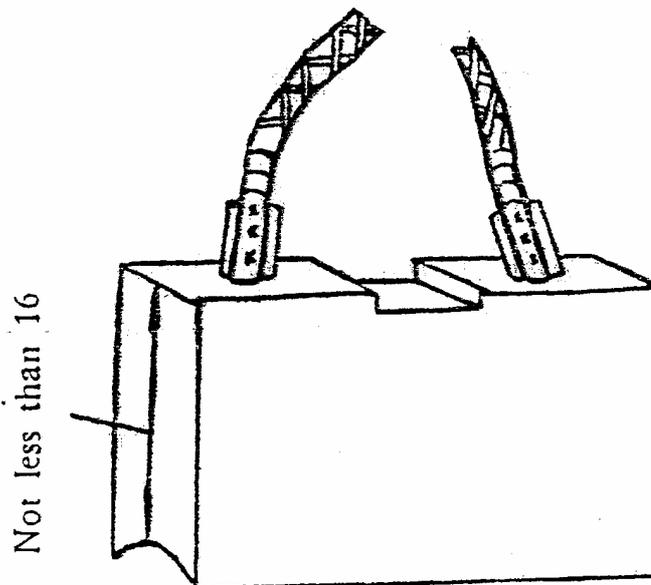

Fig. 5 The height of generator brush
c. Check commutator and brush, measure the height of brush (fig. 5). When the brush is worn and its height lower than 16 mm, it is necessary to replace.